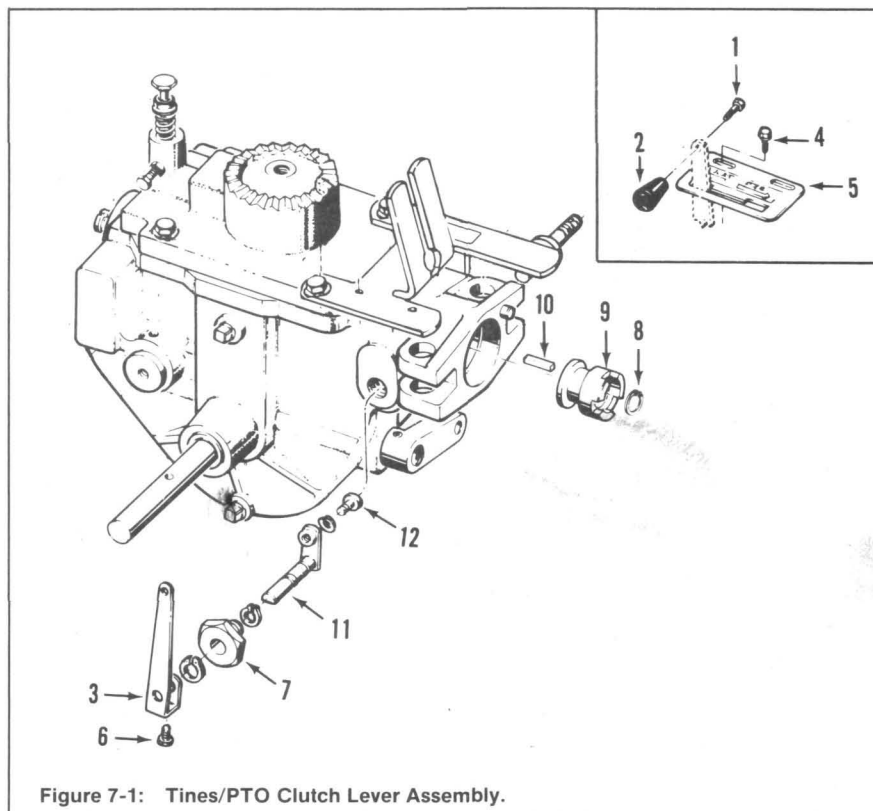

Figure 7-1: Tines/PTO Clutch Lever Assembly.
3. Remove the bolt (1) that holds the clutch lever knob (2) to the clutch lever (3). Then remove the clutch lever knob and bolt (see inset, Figure 7-1).
4. Remove the bolts (4) that hold the detent plate (5). Then remove the detent plate. (See inset, Figure 7-1).
5. Remove the bolt (6) that holds the clutch lever to the eccentric shaft (11) and remove the clutch lever.
6. Unscrew the eccentric shaft hex nut/bushing (7). Then lift the shaft up (tilting the assembly in the housing down) and withdraw the assembly from the housing.